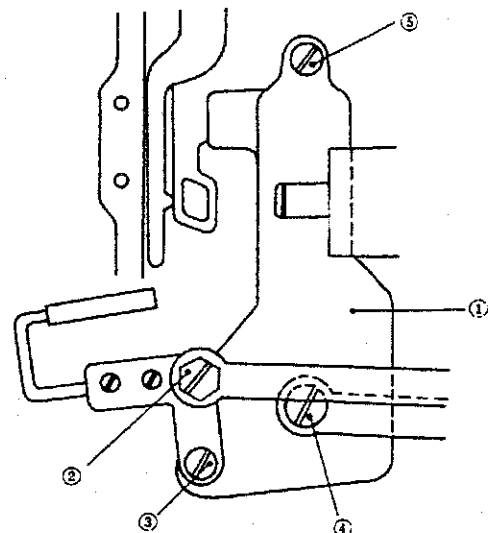

Fig. 39
Remove knife mounting base ① (Fig. 39) in the following sequence:
- 2) Loosen hinge screw ② (Fig. 39), and remove hinge screw ③ (Fig. 39).
- 3) Remove hinge screws ④ (Fig. 39) and ⑤ (Fig. 39), then, the knife mounting base can be removed.